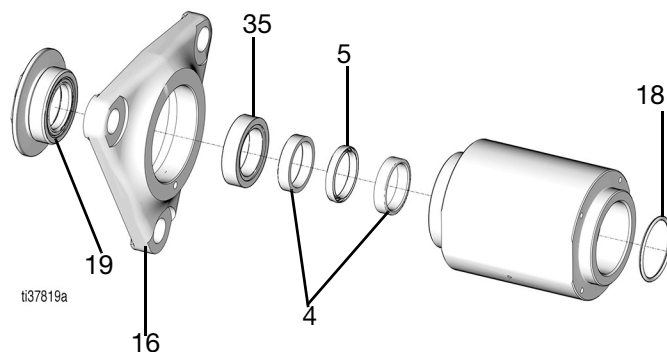

FIG. 17
19. Remove the outlet housing adapter (16) (FIG. 17).
20. Remove the spacer (35), throat seal (5) and the throat seal back-up rings (4) (FIG. 17).
21. Remove the o-ring face seal (18) (FIG. 17).